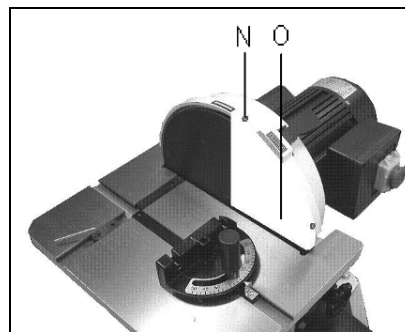

Fig 4
Attach the sanding disc guard (O, Fig 4) with two screws (N).
Remove the sanding disc guard (O, Fig 4).